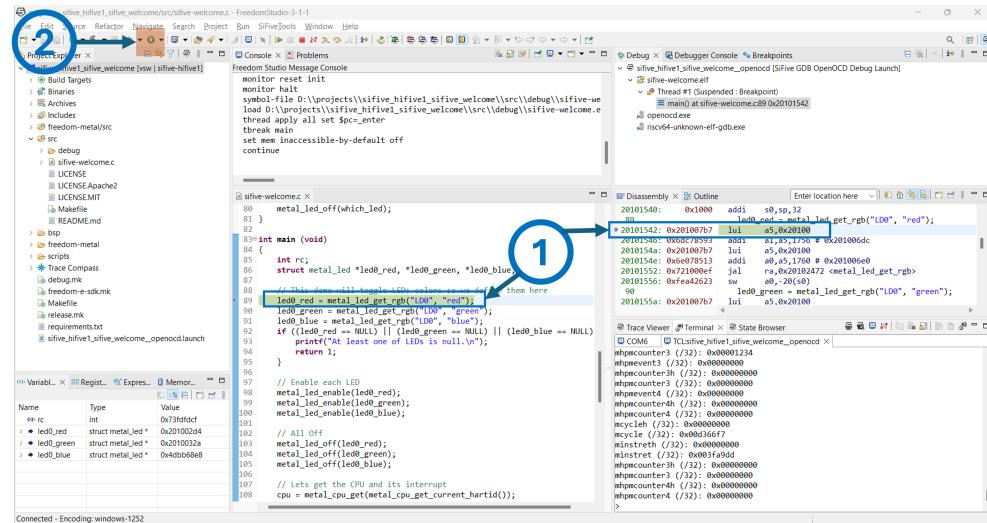

Figure 12: Steps to run sifive-welcome program and observe output
- You should see the debug window shown with 1 in Figure 12. To run the program, click on the "Run" button as represented by 2 in the same Figure 12